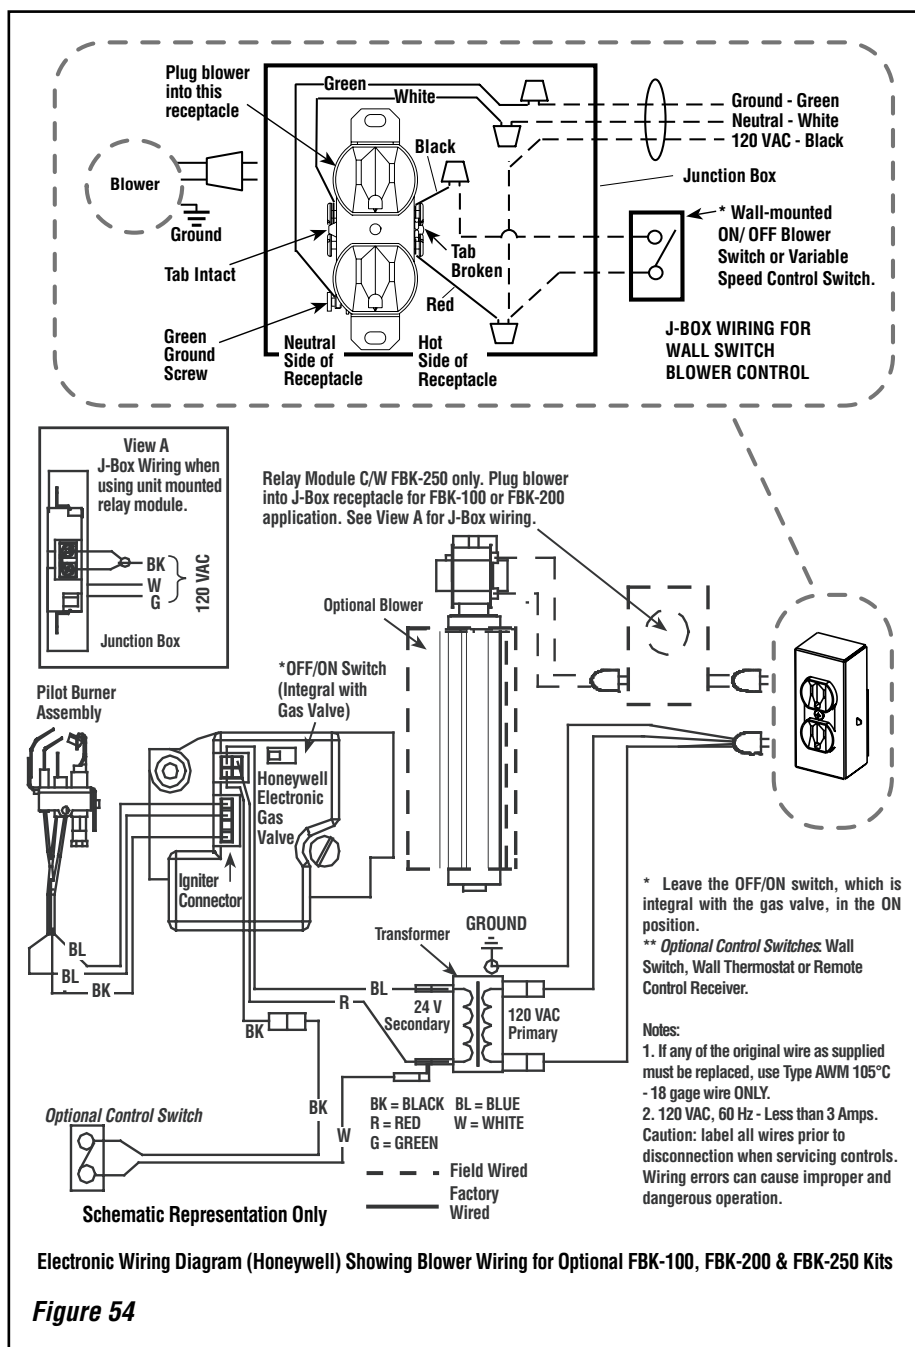

Figure 54
2. Install the junction box and receptacle outlet to the left of the valve in the front (for optional blower kit). See junction box and receptacle outlet as explained in steps 1-11 for (B) Electronic Wiring (on this page).
B. Electronic Wiring (See Figure 54)
6. Install the snap bushing (provided in kit) into the selected cabinet knockout opening in side cabinets (see **Figures 17 through 20 and 53**). The snap bushing provides protection for the wires (see note below) passing through side cabinet going to an optional burner control switch. Wire in the burner control switch to the low voltage circuit as shown in **Figure 54**.
(See **Figure 54** on page 29 for wiring) -